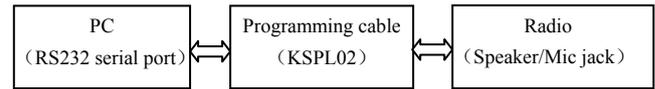

Figure 4.1
- b. Connect the radio to the serial port of the computer with the special programming cable. The method refers to the figure 4.1.
Connect the radio to the serial port of the computer with the special programming cable (see figure 4.1).